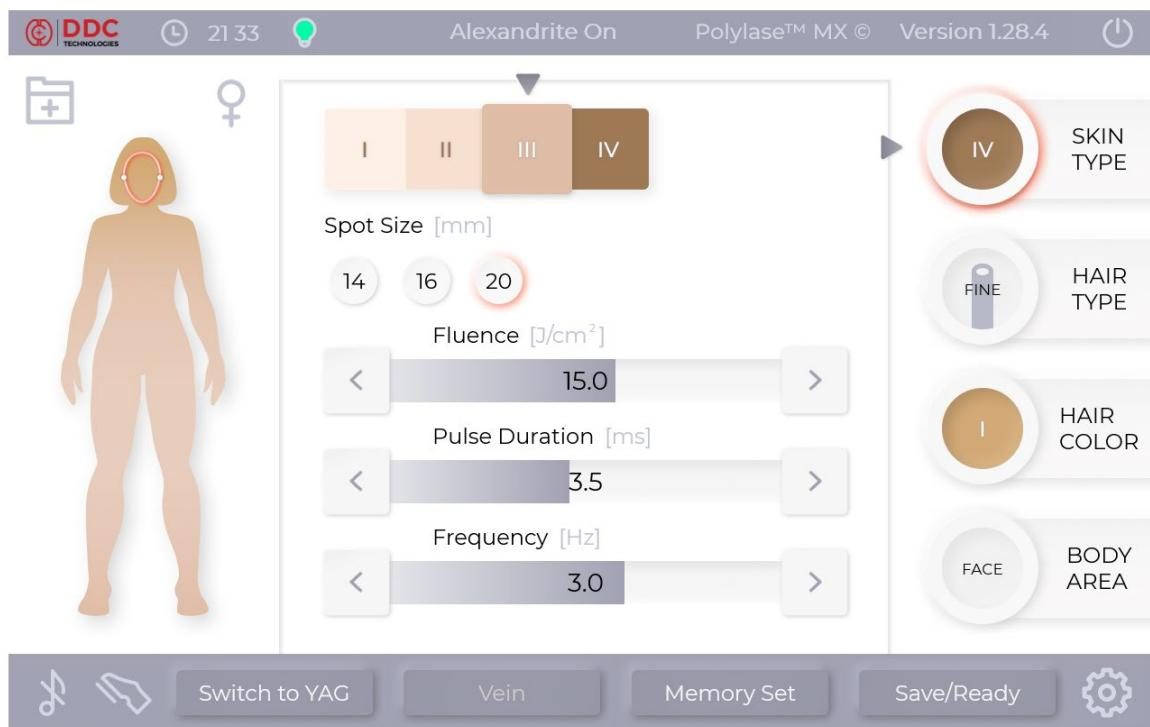

Figure 5-4. Edit Mode Screen
At this moment the cooling system pump will start, and laser lamp(s) will ignite. After the system has completed a startup and warmup cycle, laser will stay in **Edit** mode (see Fig. 5-4). In this mode laser operating parameters can be modified by the operator and the laser energy cannot be emitted.
1. Press the **SKIN TYPE** button and then select the Skin Type III option from the horizontal row (see Fig. 5-4)
Press Save/Ready button to switch the laser from *Edit* to *Ready* mode. The screen will change to *Ready* mode. The red sign on the LCD display will read: "LASER IS READY". In *Ready* mode the laser is armed and ready to fire. The intra-cavity shutter is open, and the laser power can be released by depressing a footswitch or a trigger button on the handpiece. The use of the footswitch or the handpiece trigger button can be selected by the  button (see Fig. 5-4, 5-6). Unless the footswitch or the handpiece trigger button is depressed, it is not possible to fire the laser in this mode. When you are ready to begin laser treatment, press the footswitch. At this moment laser energy will be delivered to the treatment area.